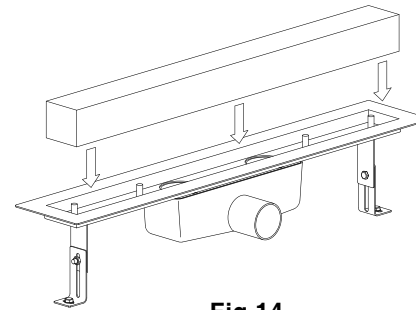

Fig.14
Quitar el protector (ver Fig.14).
6. A continuación, proceda al alicatado directamente sobre la lámina impermeable en horizontal y vertical con cemento cola C2 (asegúrese de que esté puesta la protección suministrada (ver Fig.14)). Recomendamos comenzar el alicatado desde el borde del protector para evitar cortes en la zona del sumidero.
Put the black protector into linear drain and do not take out until all the tiling work is finished (Fig. 14).
Take out the black protector (fig. 14)
- 6- Apply cement C2 directly to the exposed membrane using a trowel appropriate for the size of the tile and install the tiles vertically and horizontally. (take care of having the black protector of linear drain, fig. 14) It is recommended to start the tiling from the black protector edges in order to avoid cuts around the linear drain.